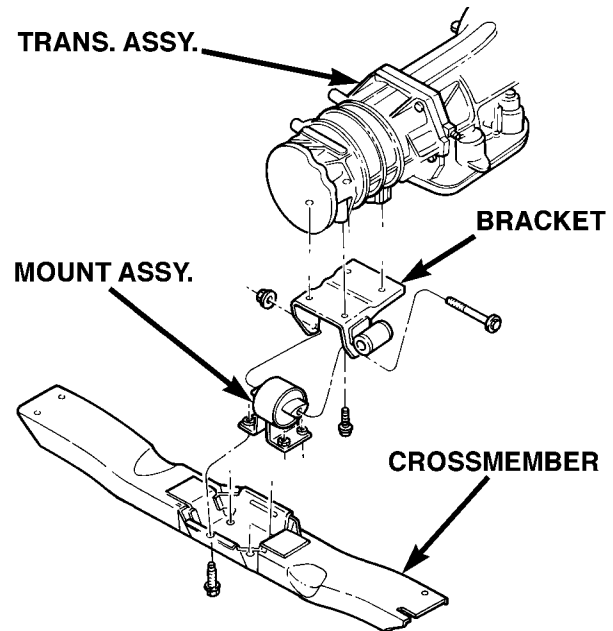

Fig. 16 Engine Rear Support Assembly
- (1) Disconnect the negative cable from the battery.
- (2) Raise the vehicle and support the transmission.
- (3) Remove the bolts holding the mount assy. to the crossmember.
- (4) Raise the transmission and engine SLIGHTLY.
(5) Remove engine mount bracket thru-bolt and nut (Fig. 16).
(6) Remove the rear mount assy.
(7) If necessary, remove the bolts holding the rear mount bracket to the transmission. Remove the bracket from the exhaust pipe hanger. Remove the bracket.